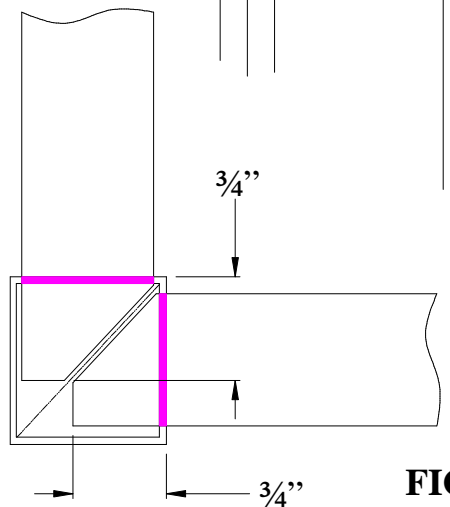
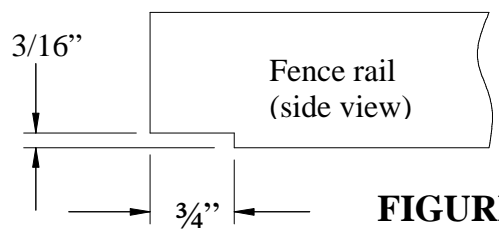

FIGURE 4
FIGURE 5
- 2.5. Fence rails will need to be mitered for corner posts. See Figure 4. Fence sections may be cut to length as necessary. Cut fence sections will need to be notched as shown in Figure 5.